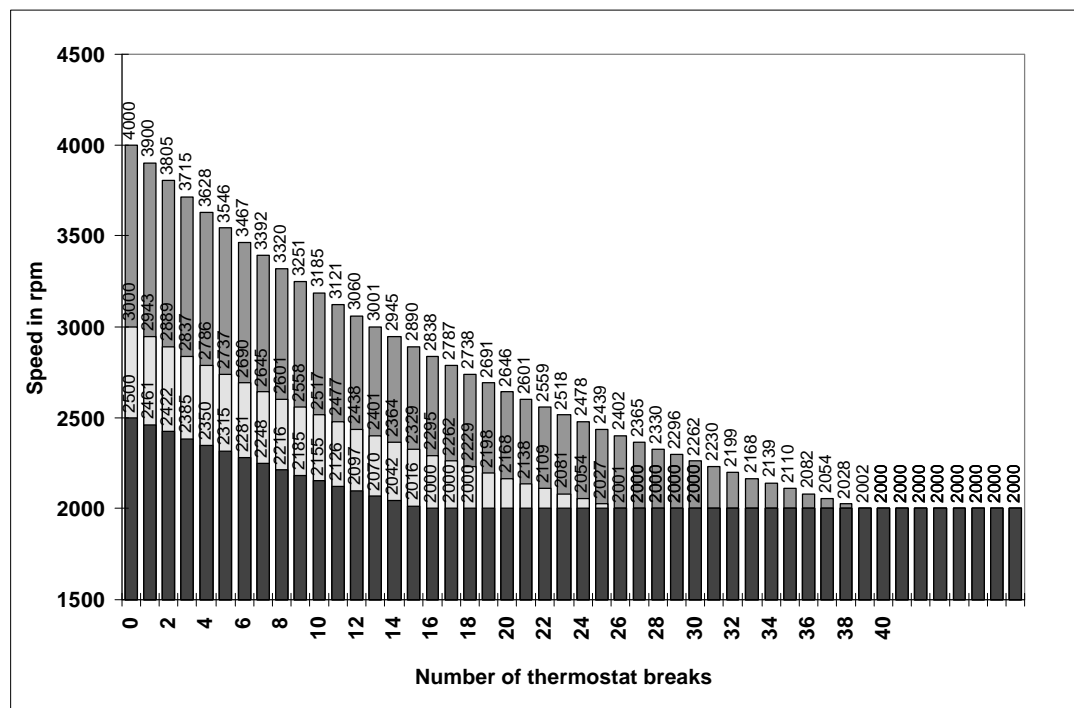

Figure 3: AEO step down examples
- In the succeeding cycles the compressor will start with a speed slightly below the previous cycle, according to figure 3, as long as the running period is below 60 min. Following this pattern the compressor will reach the lowest possible value, which is set to 2000 rpm, after a series of thermostat cycles.